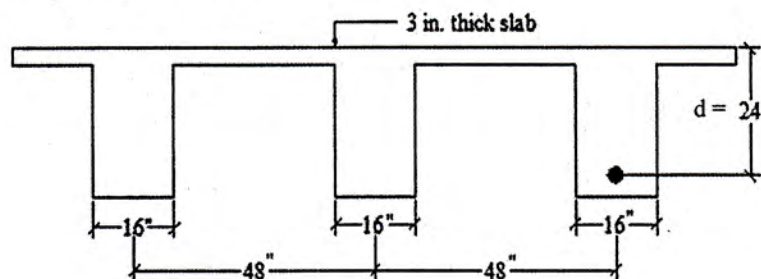

Figure 3
- (b) Show with neat sketches the following cracks in RC beams and slab. (3)
6. (a) What is the advantage of designing beams as T-beams compared to rectangular beams? (2)
- (b) A floor system consists of a 3 in. slab supported by continuous T-beams with 25 ft clear span, 48" on centers as shown in **Figure 3**. Concrete dimensions, governed by web shear and clearance requirements, are $b_w = 16$ in. and $d = 24$ in. What tensile reinforcement is required at mid span to resist a factored moment $M_u = 720$ kip-ft, if $f'_c = 3$ ksi and $f_y = 60$ ksi? Use USD method. (8)